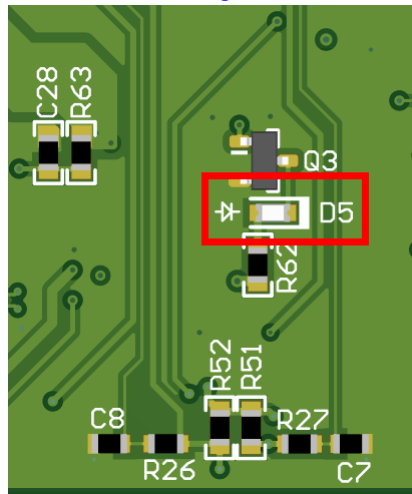

Figure 2-1. USB LED
- iii. Click *Identify* to blink LED shown in Figure 2-1. After clicking the *Identify* button, the LED flashes quickly at about 0.5 second on, 0.5 second off for about 5 seconds. This confirms the connection to the board. However, be aware that USB2ANY devices that are connected to the PC, but not attached to a TICS Pro profile, can blink at a slow rate of 1 second on, 1 second off continuously.